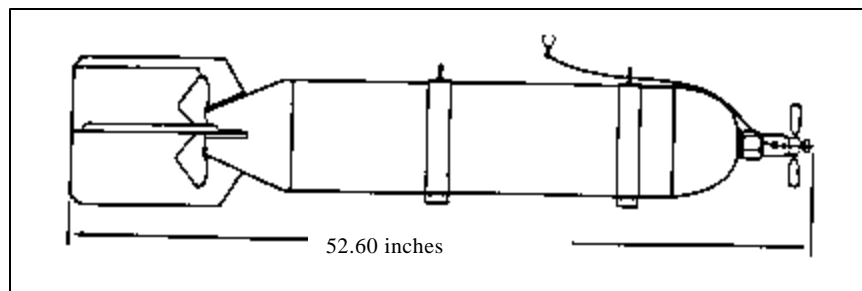

Figure 23. U.S. Incendiary bomb.
- (8) Incendiary bombs are filled with burning agents, such as thickened fuels and metallic fillings. A third type of incendiary material, not classified as a filling, is the magnesium used in the bodies of some incendiary bombs, such as the one shown in Figure 23.